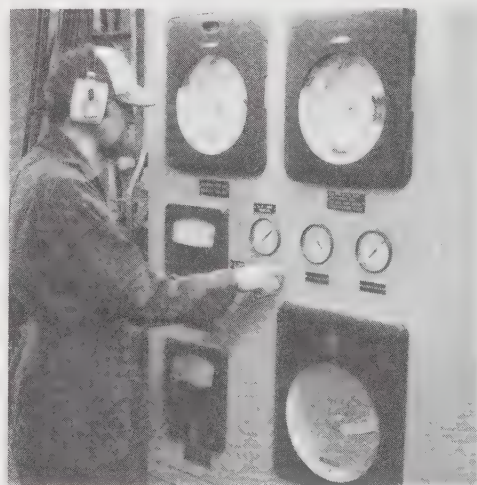

Figure 11-13. The boiler is switched to automatic after reaching normal operating pressure.
16. Gradually switch over all boiler controls to automatic operation as soon as the boiler has reached its normal operating pressure. See Figure 11-13.